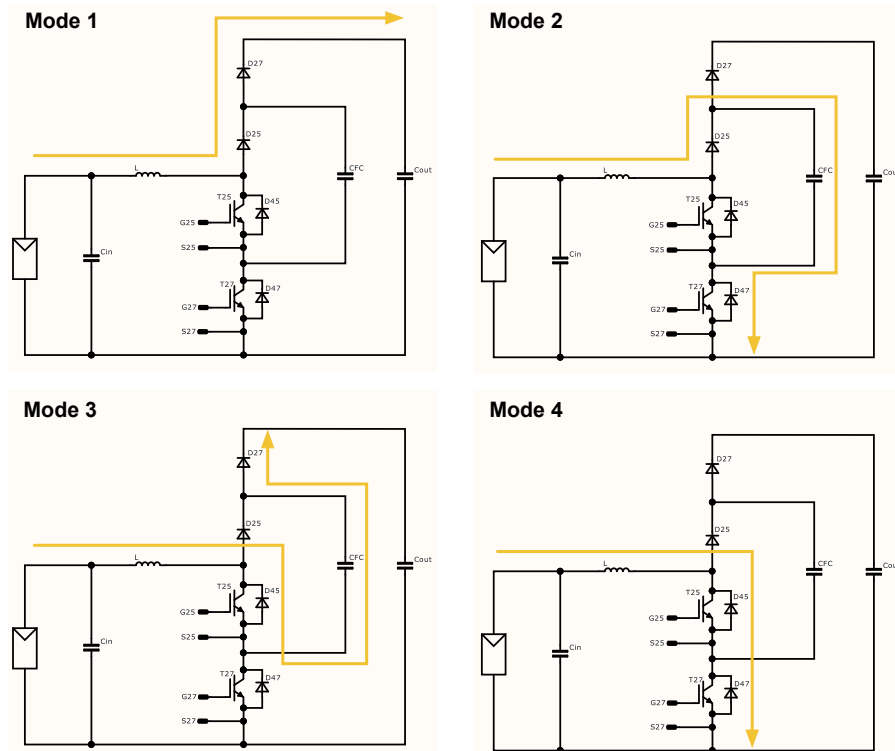

Figure 3: Operation modes of a flying-capacitor booster
output voltage will increase. In the last mode, both two switches are turned on. The voltage of the flying-capacitor will be stationary, while the current of the choke will be increasing. In the second and the third mode the inductor current change is dependent on the duty cycle (D). The operations and their effects can be seen on Figure 3 and Table 1.